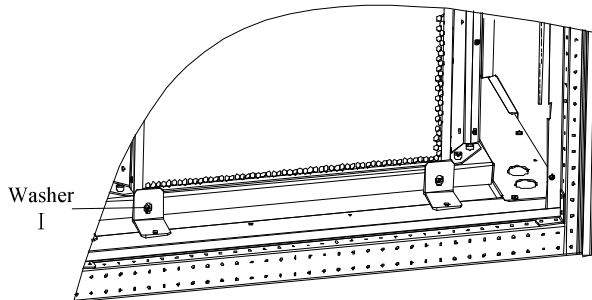

Figure 3-14 Position of fixing bolt and washer I
3. Cut off the cable tie binding the fan cables to make the cables length satisfy fan lowering requirements, and then remove the fixing bolts and washers I (see Figure 3-14, totally 4 pcs) for fan transportation.